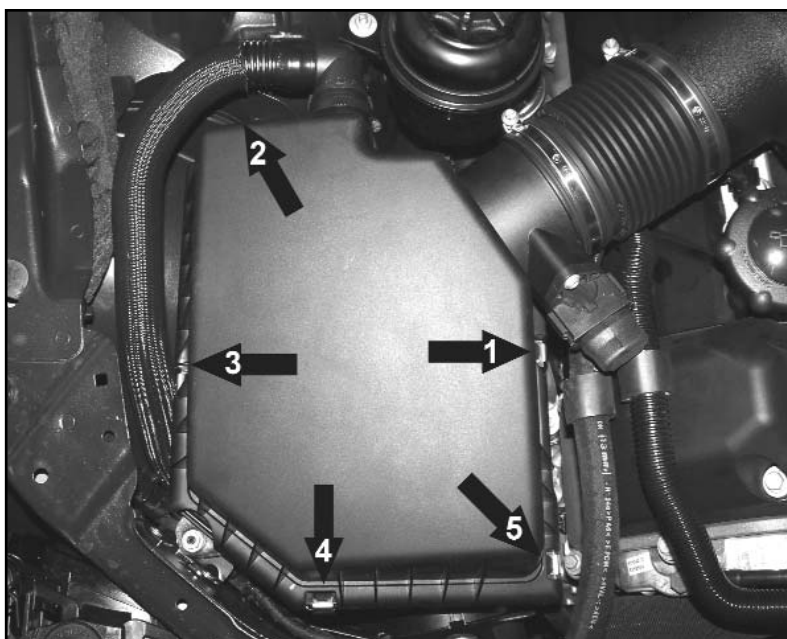

Fig. 1
8. Fasten sequence of clamps. begin at clamp #1, finish with clamp #5 to ensure proper fit. (Fig 1)
Following sequence (Fig. 1) will ensure proper fit.